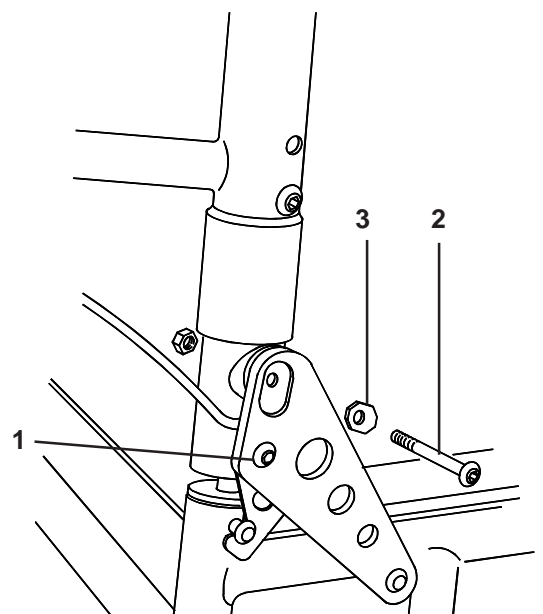

Fig. 27
Toe in/toe out (Fig. 27, page 24)
The backrest comes with an 8° angle adjustment (Fig. 27). To adjust the angle, loosen the bottom bolt (1), remove the top bolt (2), and rotate the eccentric washer (3) to the desired angle. Refit the washer and top bolt, and tighten both bolts to 8-10Nm torque with a 4mm Allen key.